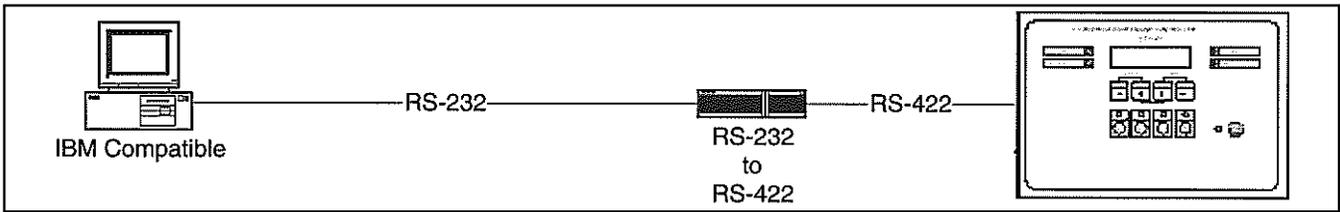

Figure 41 Direct Connection
1. Direct. From computer to controller. The direct connection bypass mode is shown in Figure 41.